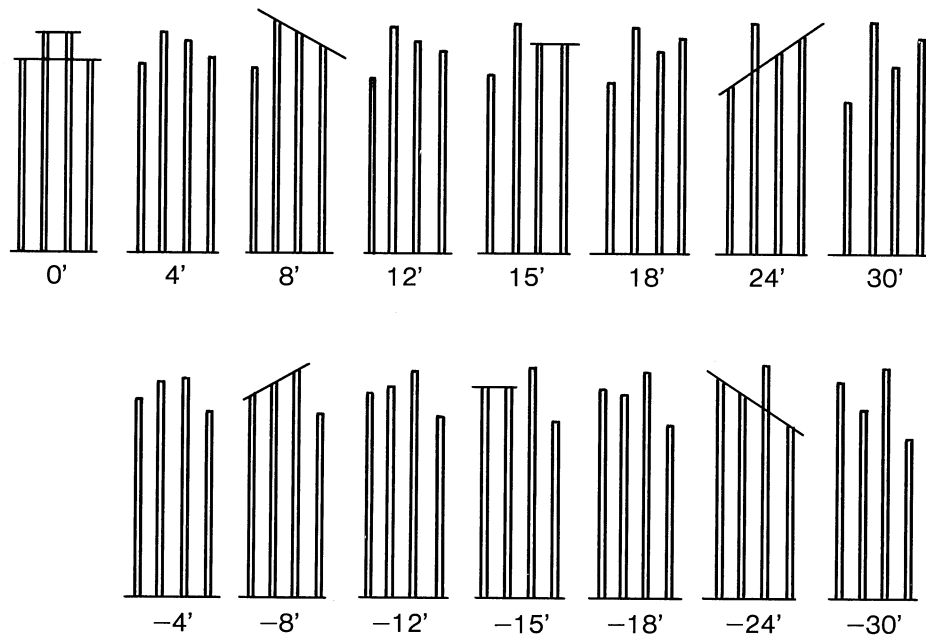

Figure 4-15. Relationship between Azimuth and Pattern
- (3) OK if the azimuth is within $\pm 30'$ (see Figure 4-15).